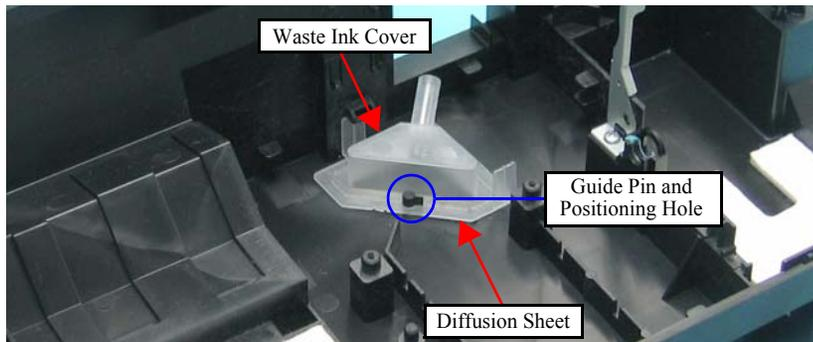

Figure 4-88. Removing Waste Ink Cover and Diffusion Sheet
- When installing the Waste Ink Cover, be sure to align the guide pin (x1) of the Base Frame with the positioning hole (x1) of the Waste Ink Cover. Make sure the cover is properly secured on the Diffusion Sheet without any gaps as shown in Figure 4-88.